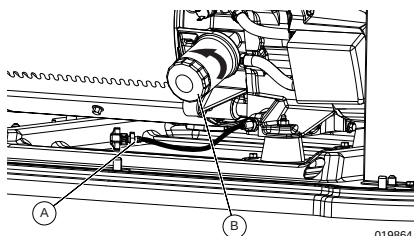

Figure 4-1. Oil Filter and Drain Location
6. See Figure 4-1. Pull oil drain hose (A) free of retaining clip. Remove cap from oil drain hose and place free end into a suitable container. Drain oil.